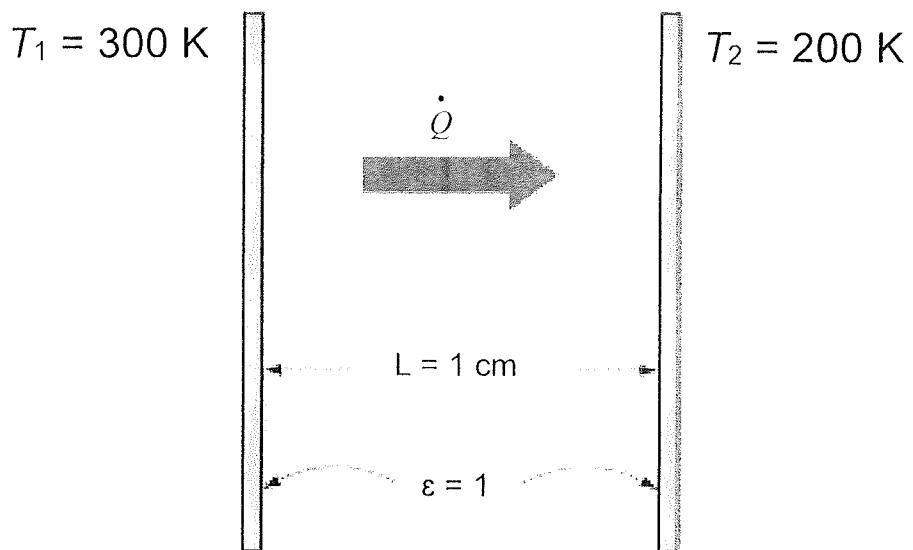

Figure 3. Heat transfer between two plates
- [b] Consider steady heat transfer between two large parallel plates at constant temperatures of $T_1 = 300\text{ K}$ and $T_2 = 200\text{ K}$ that are $L = 1\text{ cm}$ apart, as shown in Figure 3. Assuming the surfaces to be black (emissivity = 1); determine the rate of heat transfer between the plates per unit surface area by assuming the gap between the plates is